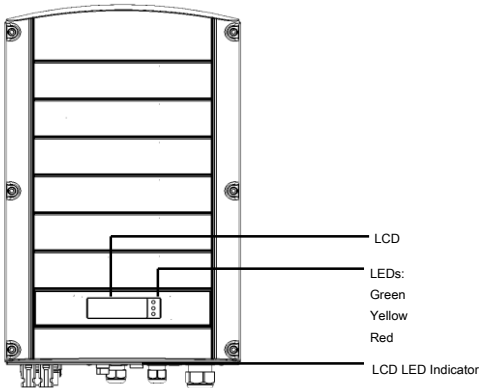

Figure 4: Front view of the inverter
- **LED LCD:** Three LEDs indicate the following statuses of the UPS (see Figure 4)